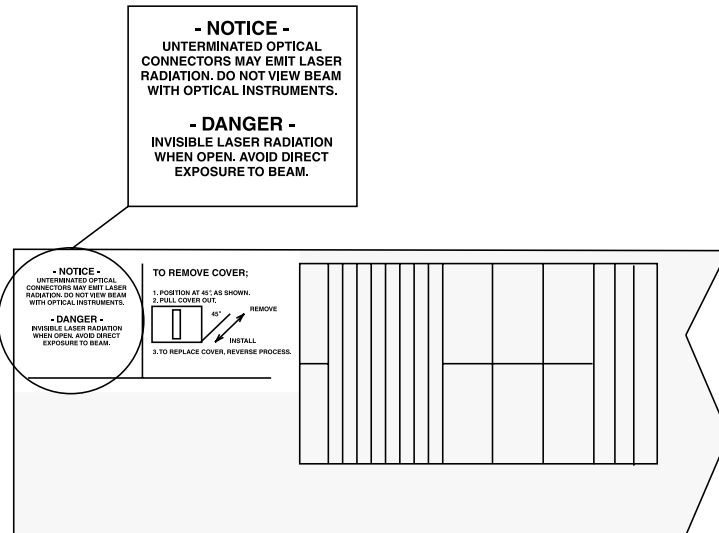

Figure 1. Safety Label on Inside of Front Shelf Cover
3. Since viewing lightwave emission directly with an optical instrument such as an eye loupe greatly increases the risk of eye damage, an appropriate label must appear in plain view on the front of the main frame or lightguide termination/interconnection equipment. The safety label (Figure 1) shall read as follows: